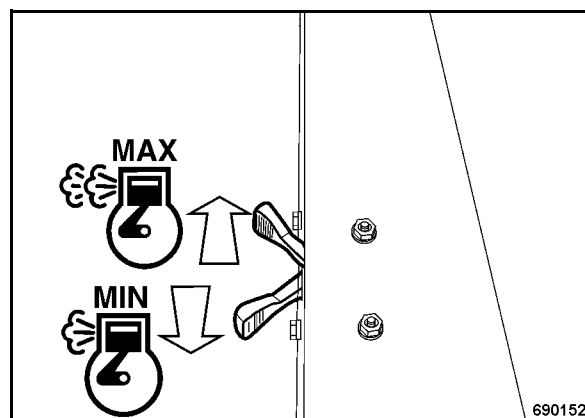

Fig. 27
- Keep shifting the throttle lever (Fig. 27) between "MIN" and "MAX" positions.